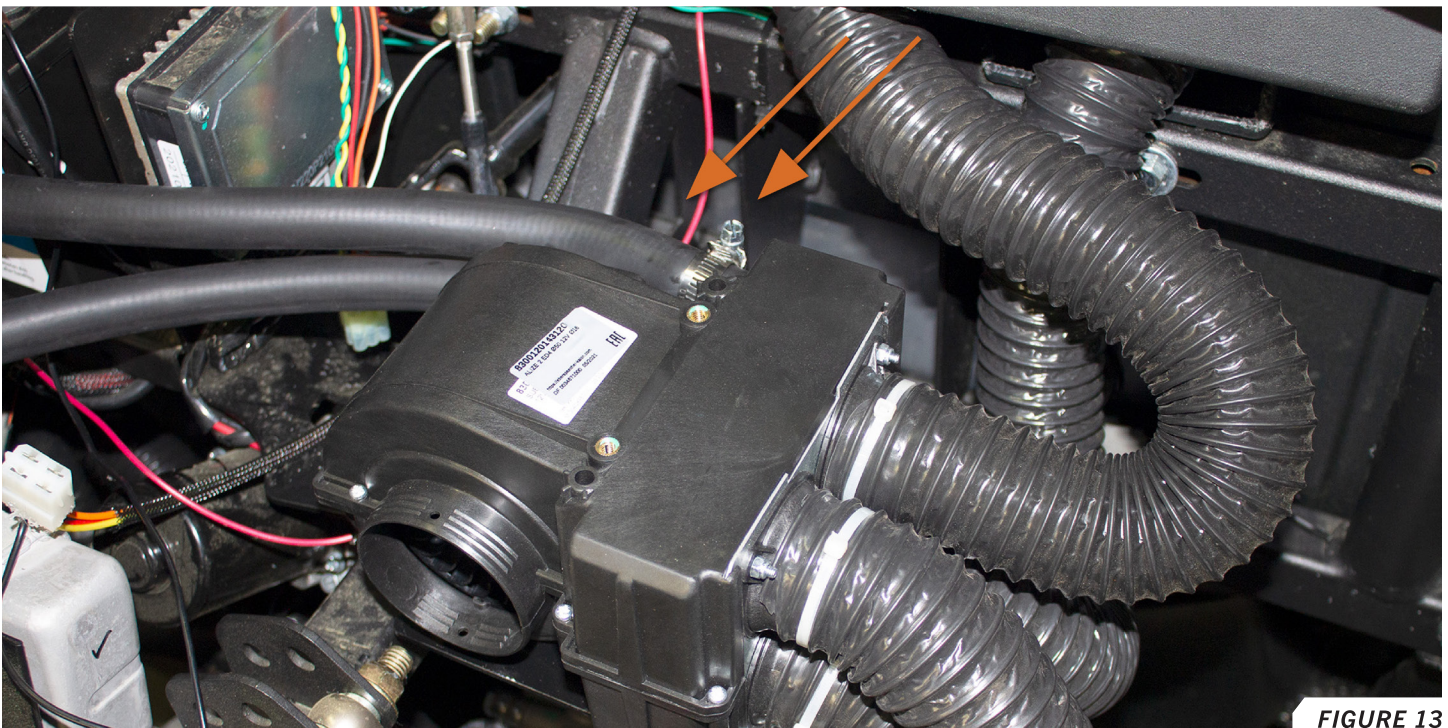

FIGURE 13
34. Connect the provided radiator hoses to the copper inlet/outlet ports on the heater unit and secure with #10 hose clamps. **FIGURE 13**